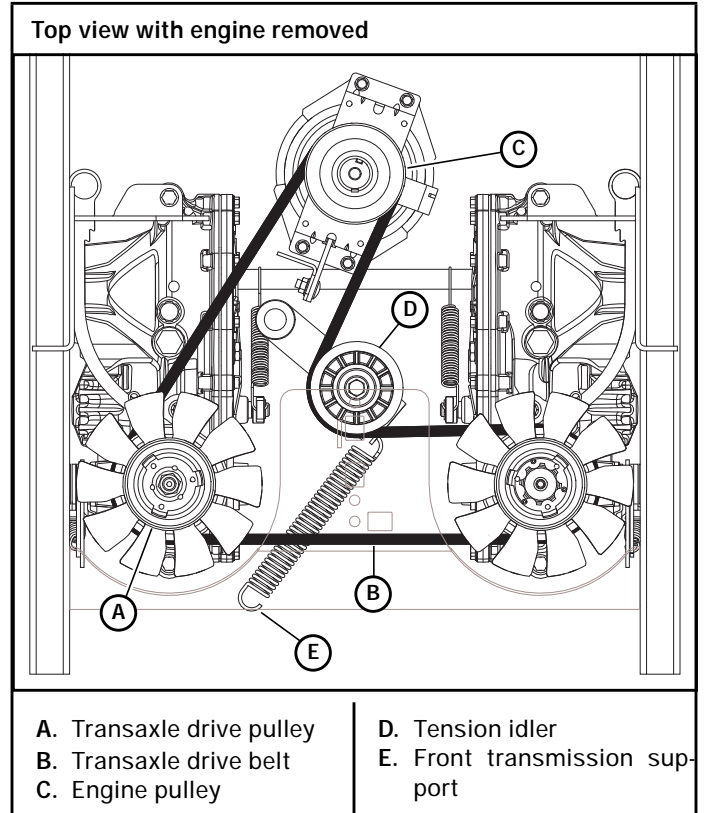

Figure 4-15
7. Locate the tension idler spring. Securely clamp locking pliers onto the spring at the end located next to the front transmission support. Figure 4-15
8. Release the transaxle drive belt tension, using the locking pliers, to remove the tension spring from the front transmission support. Swing the idler arm out of the way. Figure 4-15
9. Remove the transaxle drive belt from the transaxle drive pulleys and the engine pulley. Figure 4-15
10. Replace the transaxle drive belt and route it around the engine pulley and the transaxle drive pulleys. Figure 4-15
11. Make sure the transaxle drive belt is routed correctly around the tension idler before attaching the tension spring. Using the locking pliers, re-attach the tension spring to the front transmission support to re-tension the transaxle drive belt. Remove the locking pliers from the tension spring. Figure 4-15